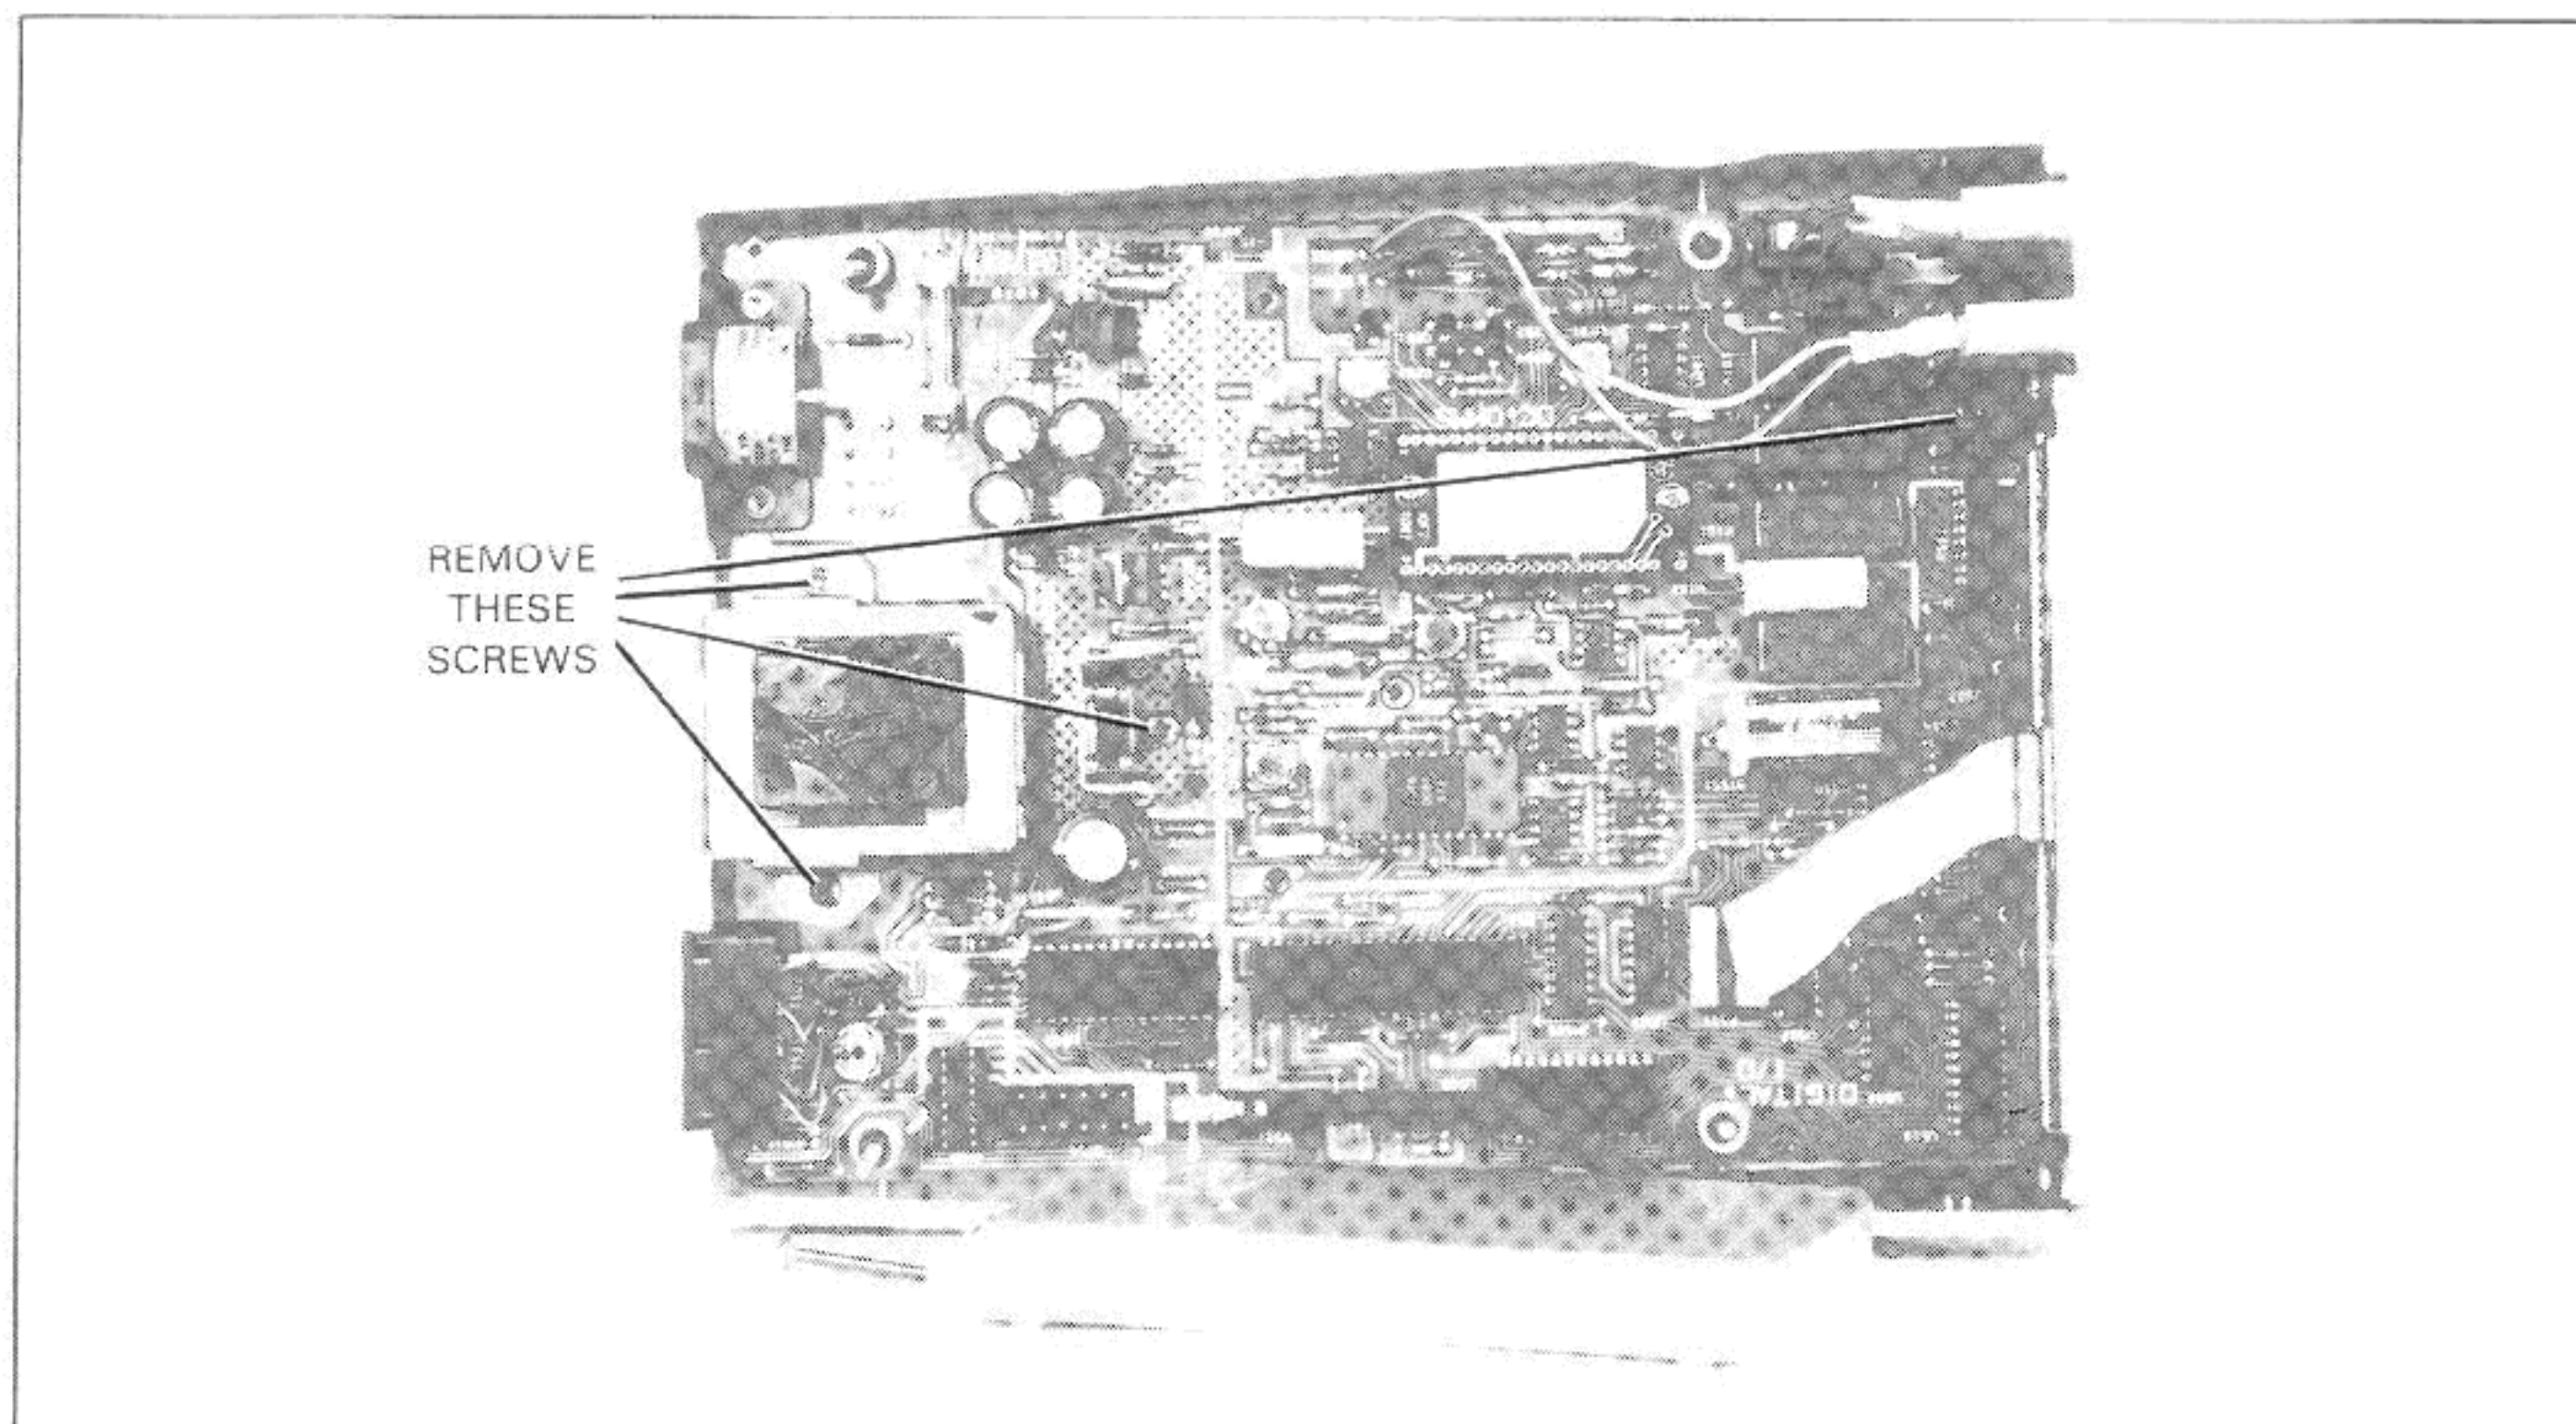

Figure 2-3. Top View with Inner Shield Removed
2. Refer to Figure 2-3. Loosen and remove the printed circuit board mounting screws, as shown in the figure.